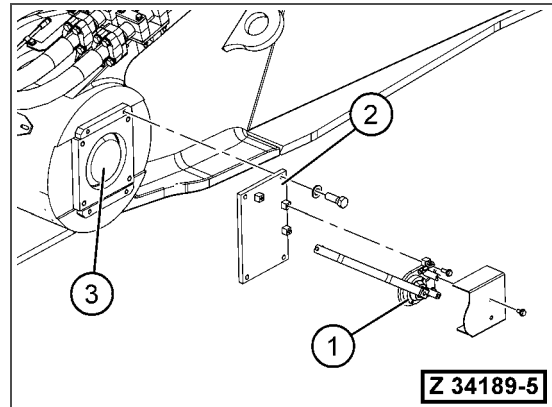

Fig. 5-74
21. Remove the protection plate and disassemble the stick angle sensor (Fig. 5-74, Pos. 1) and the protection plate (Fig. 5-74, Pos. 2).
22. Pull the pin (Fig. 5-74, Pos. 3) out completely to clear boom and stick.